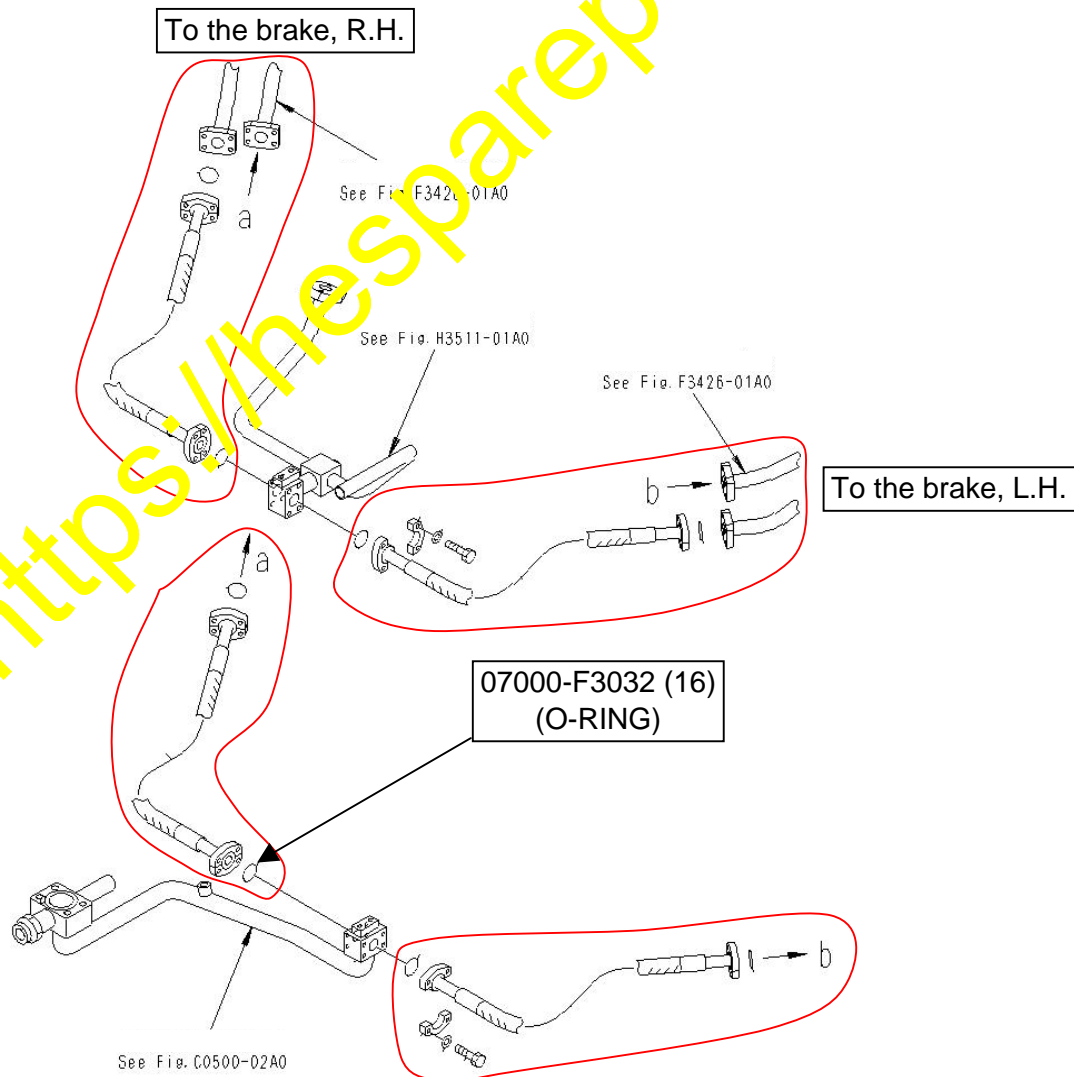

Fig. 12
7) Install the cooling piping. (Refer to Fig. 12.) Parts marked Replace the consumable parts (07000-F3032: O-ring) with new ones.